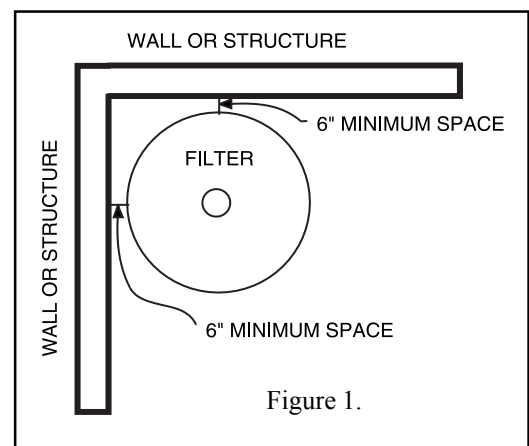

Figure 1.
2. Install electrical controls (e.g., on/off switches, timers, control systems, etc.) at least five (5) feet from the filter. This will allow you enough room to stand clear of the filter during system start up.
3. Allow sufficient clearance around the filter to permit visual verification that the clamp is properly installed around the tank flanges, see Figure 1.